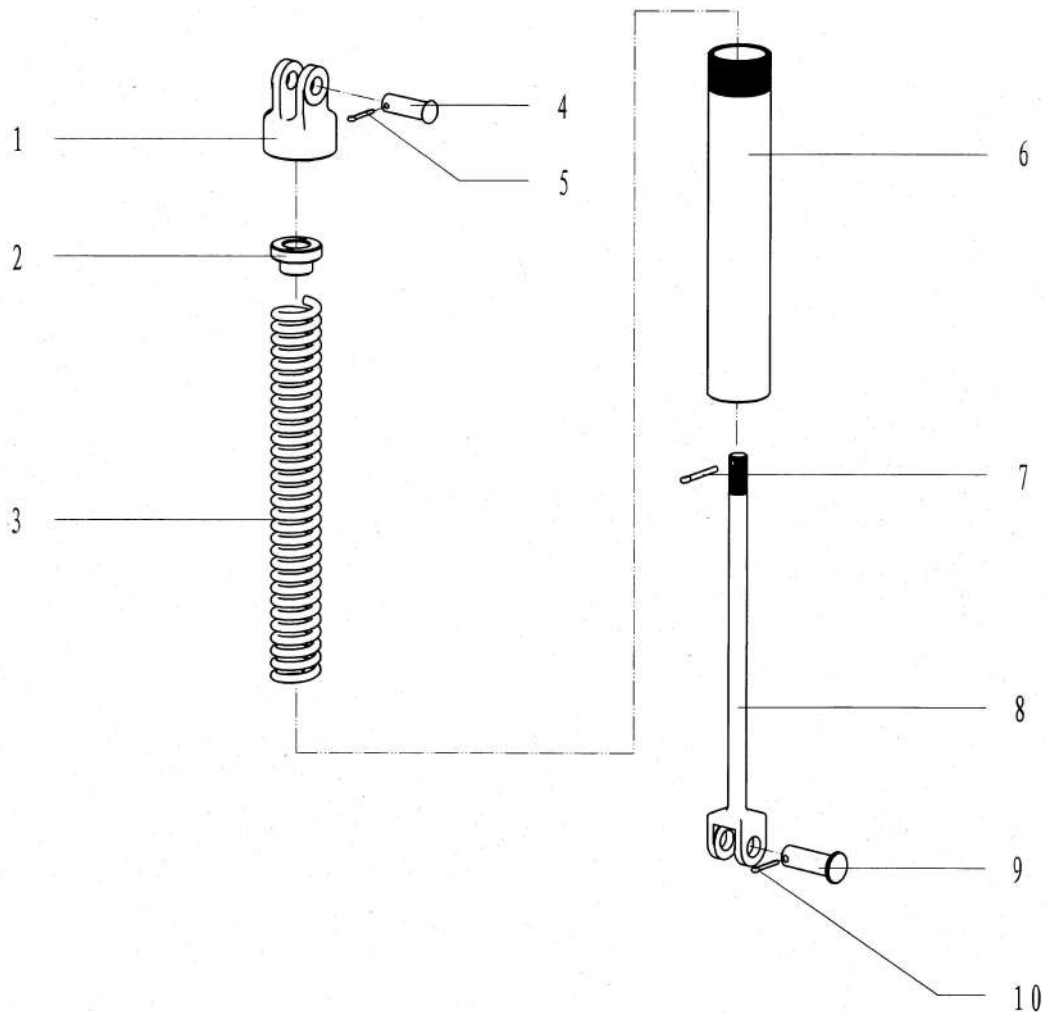

Fig.17 Lift assembly
9.15 Lift assembly and parts list (Fig.17, Table 15)